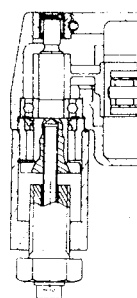

Fig. 1
5.2.2.2 Screw threaded spindle M 8 of pulling-off device 6 41 04 024 00 6 completely into drive shaft (390) and turn to the left by a half-turn (see fig. 1). Hold in place threaded spindle M 8 and draw out drive shaft by turning the hexagon screw to the left. Take off lever (330).